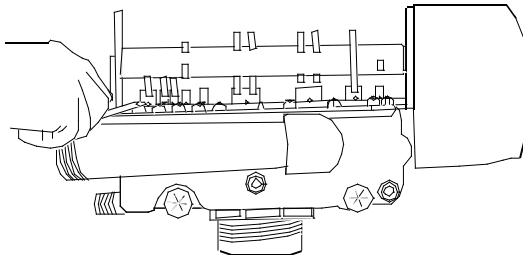

Figure 11
4. Relieve system pressure by opening the backwash drain valve (the seventh valve back from the control) with a screwdriver, Figure 11.